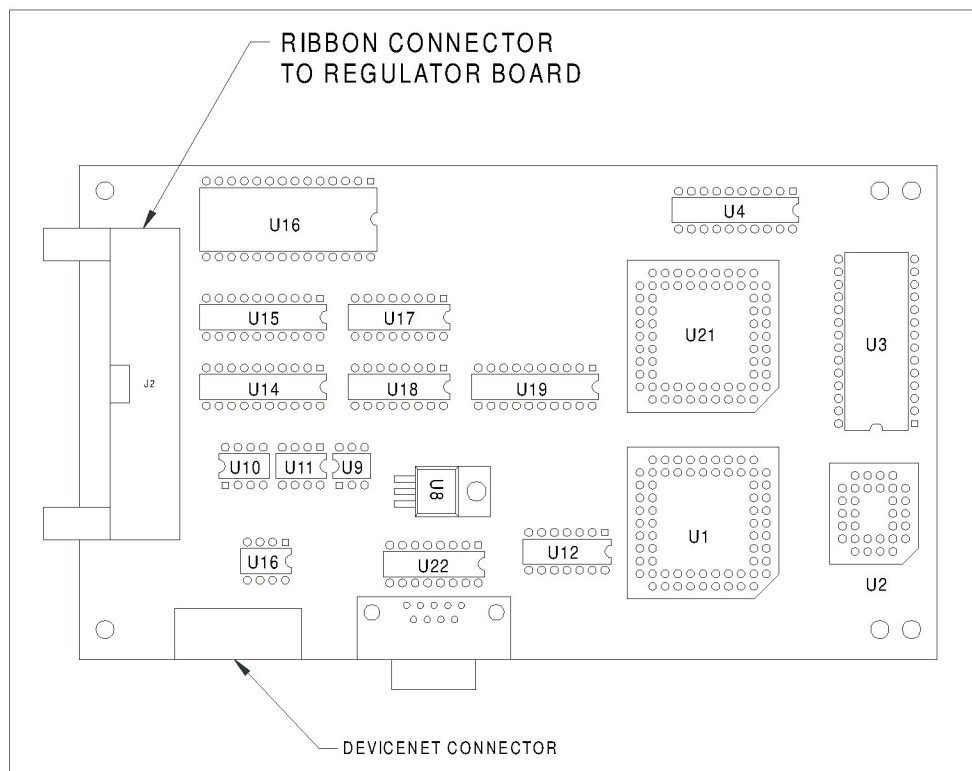

Figure 3.1 – DeviceNet Option Board (HEC-GV3-DN)
3.2.2.1 Use the following procedure to install the Network Communication Option Board. **Refer to Figures 3.1 – 3.4 for mounting locations.**